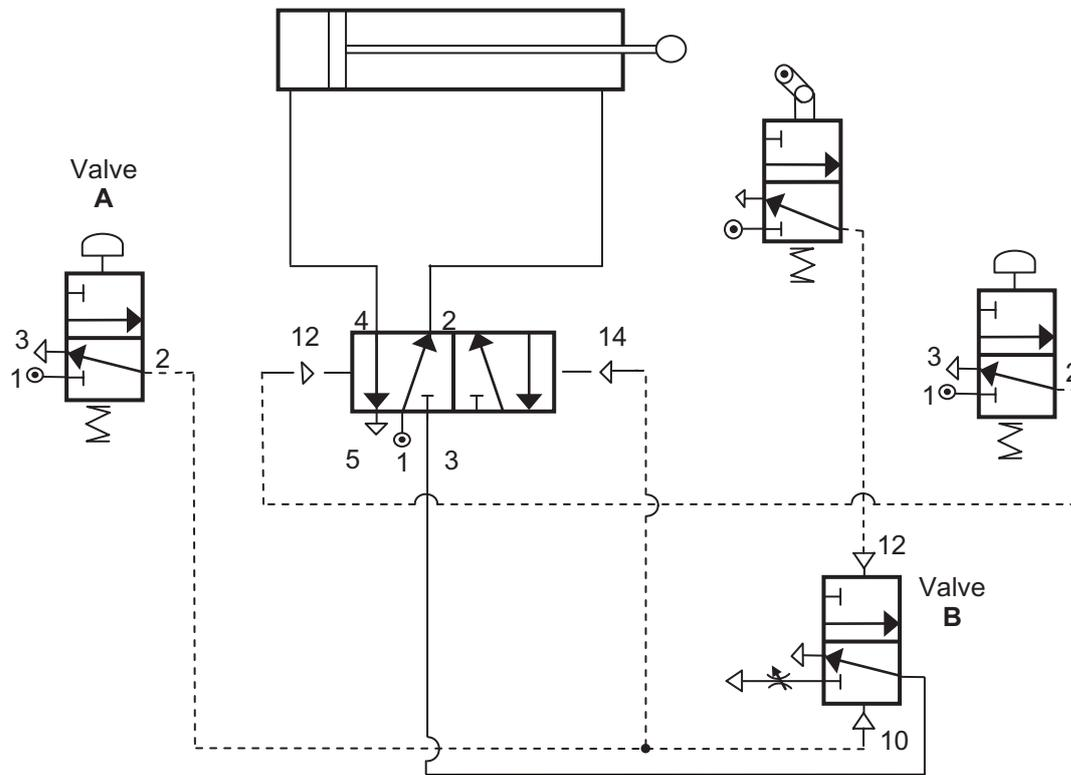

Fig. 4(a)
- (b) Fig. 4(a) below shows a circuit used to control the speed of a double acting cylinder for an industrial process.
- (i) Explain how the circuit in Fig. 4(a) operates starting from when Valve A is pressed. (Your answer should include a detailed explanation of the operation of Valve B.) [6]